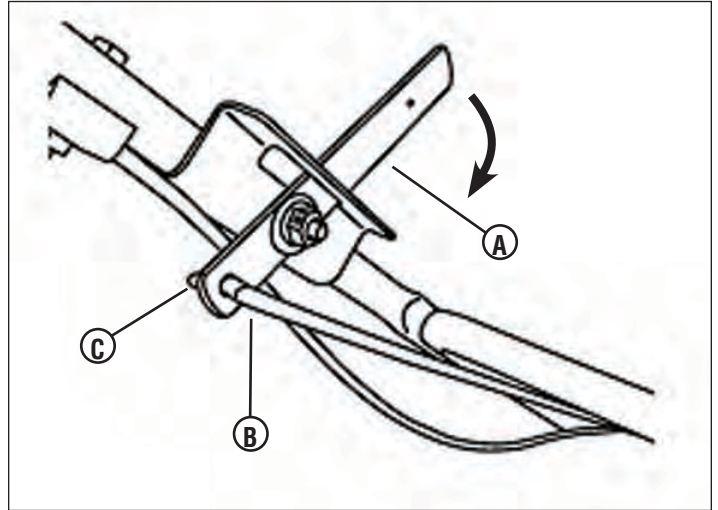

Figure 11
- Slide the ground speed control lever (A, Figure 11) fully forward.
- Thread the rod in until the upper end of the rod (B, Figure 11) aligns with the hole in the bottom of the ground speed control lever. Insert the upper end of the rod into the hole, and secure with a 5/16" flat washer and hair pin (C).